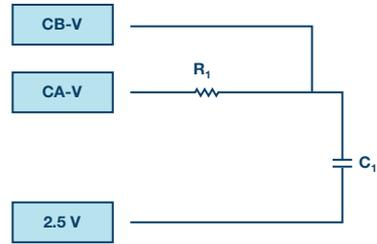

Figure 5. Breadboard diagram of an RC circuit.
- ▶ 1. Set up the circuit shown in Figure 5 on your solderless breadboard with the component values $R_1 = 2.2 \text{ k}\Omega$ and $C_1 = 1 \mu\text{F}$. Open the ALICE Oscilloscope software.